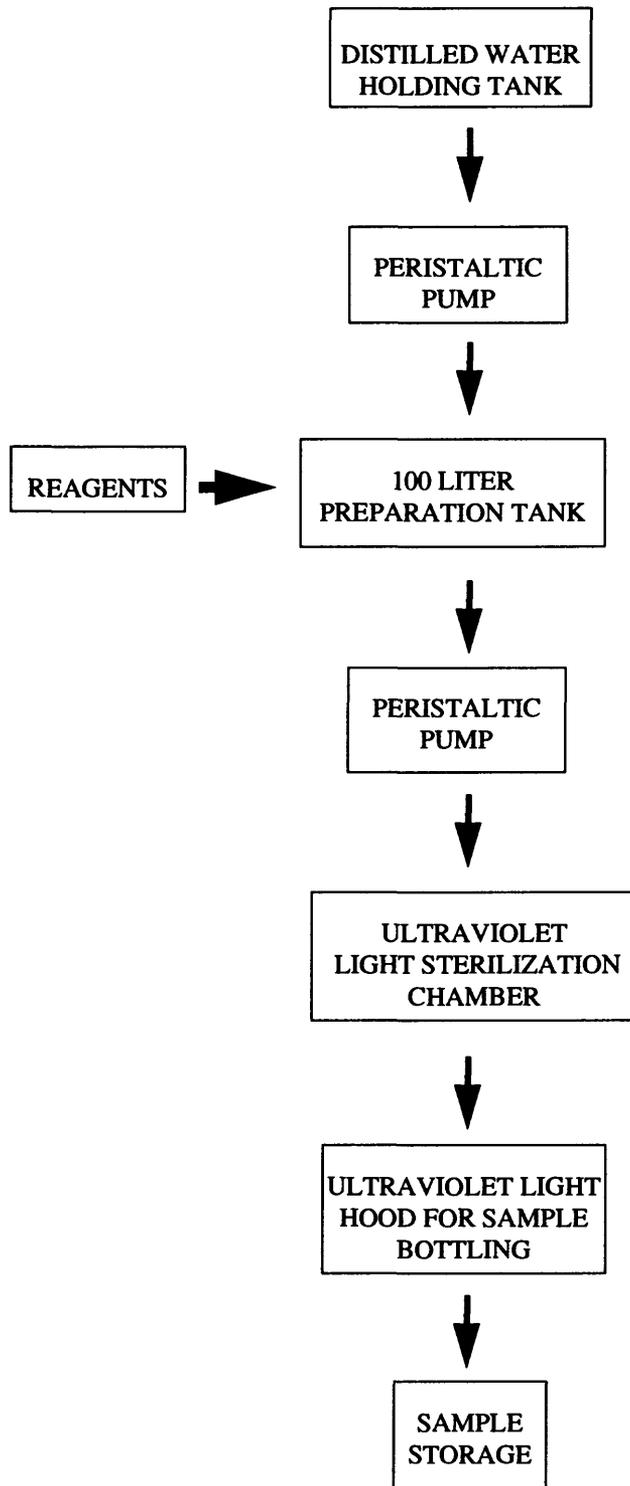

Figure 2.--Proficiency sample preparation process
tank (fig. 2) using a peristaltic pump and mixed with the appropriate quantity of reagents for the proficiency solution being prepared. The alkalinity, pH, and conductivity solutions are stirred continuously for 4 to 5 hours; pH and conductivity solutions are allowed to stand at least 12 hours before ultraviolet (UV) sterilization and bottling. Alkalinity solutions are allowed to stand for 5 days before sterilization and bottling because unpublished test results (Khanh K. Doan, U.S. Geological Survey, oral commun., 1985) indicate this amount of time is necessary to allow the solution to achieve gaseous equilibrium with the atmosphere (Stanley and others, 1992).